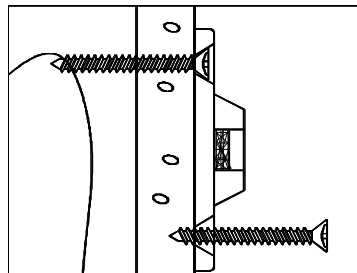
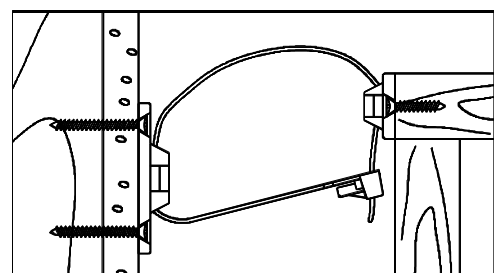

Figure 2
Figure 3
3. Repeat the step 2 to attach the top panel (A), fixed shelf (E) and bottom panel (B) to the right side panel (D). (Fig. 2)
4. To connect hutch with other pieces in the Logan Collection, bore holes should be made. Using the pilot holes as a guide, bore holes on the side/s using a drill with the 5mm drill bit enclosed (c). Proceed with caution when drilling holes. (Fig. 3)
**3) MOUNTING THE WALL-SIDE BRACKET:** Position the wall-side bracket along the selected stud mark so that it will be adjacent the furniture-side bracket when the furniture item is moved to its final position. The wall-side bracket should be about ONE inch lower than the furniture-side bracket (See Figure 3). Use the TWO Long screws to secure the wall-side bracket to the wall. Remember to position the wall-side bracket vertically so that both screws will engage the selected wall stud (See Figure 2).